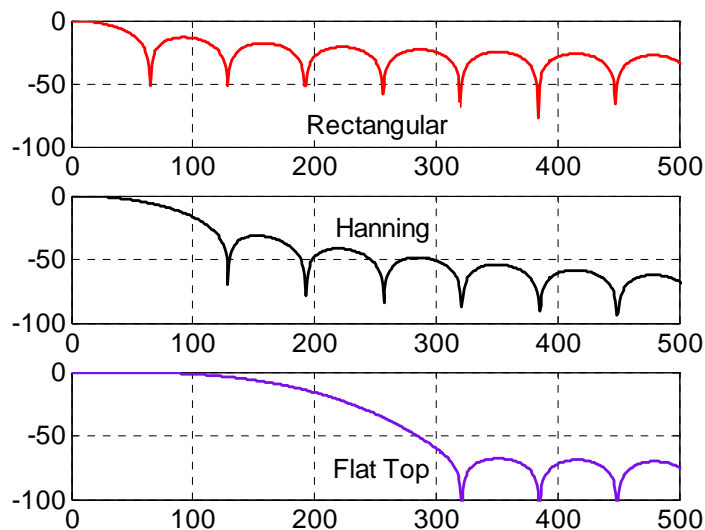

Figure 9: Different analysis windows: Rectangular, Hanning and Flat Top
If the frequency f_0 is not a multiple of the calculation step $\frac{F_e}{n}$, parasitic lines known as **spectral leaks** may appear. They will be more intense if the secondary lobes of the analysis window are big. The ideal solution is to set an analysis window with a narrow main lobe and secondary lobes with the smallest possible amplitude. For a given number of points (N), a rectangular window will give the tightest main lobe, and thus the highest resolution. But the secondary lobes are large, and may mask lines of lesser amplitude contained in the spectrum. The dynamic range of the rectangular window is therefore low. Other types of analysis window are available, offering smaller secondary lobes and better dynamic ranges, but their main lobes are wider and as such they offer lower resolution. Figure 9 shows the three windows available with the DSO5038A oscilloscope: rectangular, Hanning and Flat Top. The Hanning window has a better dynamic range than the rectangular window, the Flat Top window is used primarily for taking measurements.